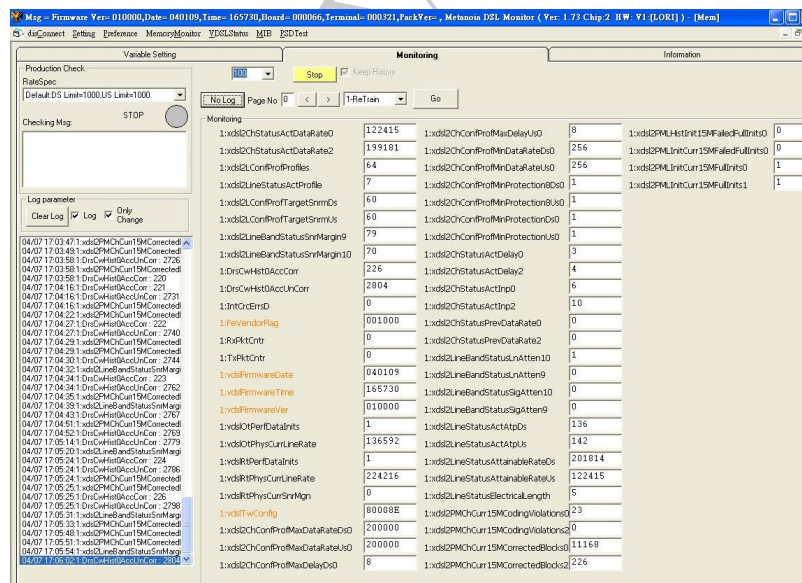

Figure 2.2: The window where MIB parameters are monitored in real-time.
6. Click the "Monitor Variables" button to start monitor variables, the window will now look like in figure 2.2.
The variable selected in previous steps will now be possible to monitor through the *Monitoring* window, like in figure 2.2.